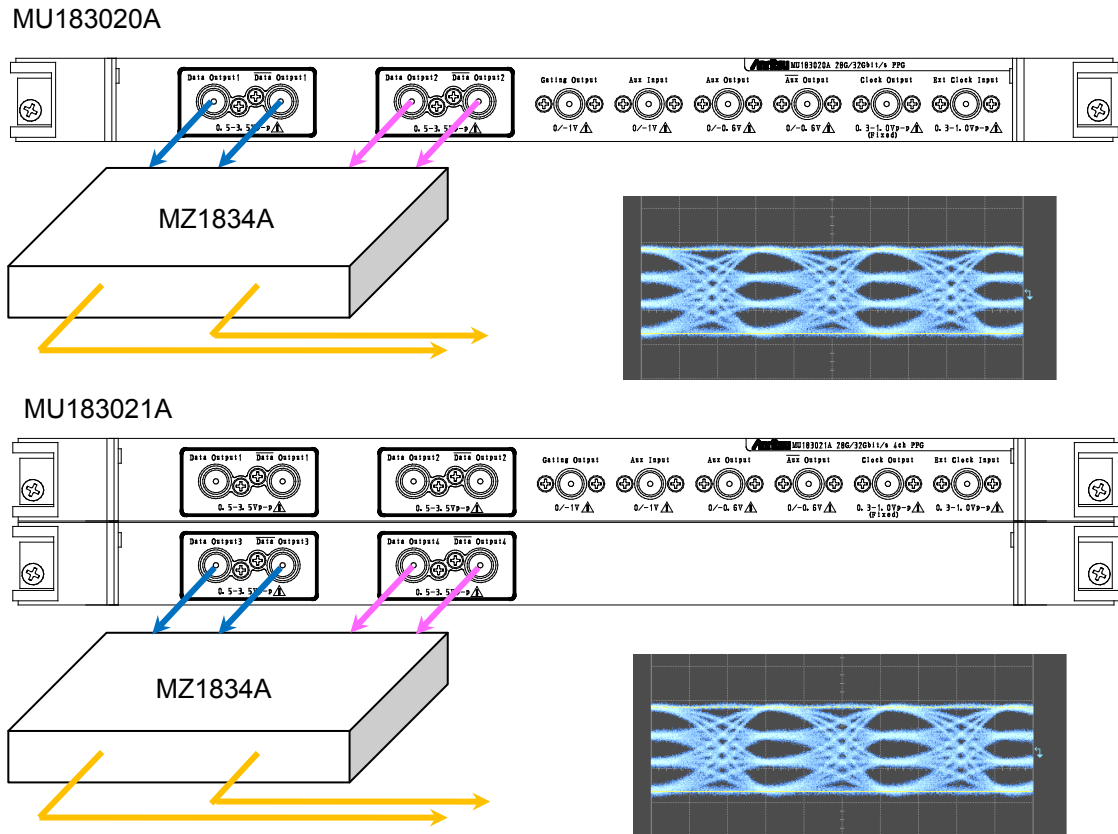

Figure 3.1.1-1 Connection example of MZ1834A and 32G PPG
- The MZ1834A is designed to be easily connected to Data Output1, XData Output1, Data Output2, and XData Output2 connectors of the MU183020A. Connect the connectors and tighten them equally as in Figure 3.1.1-1.